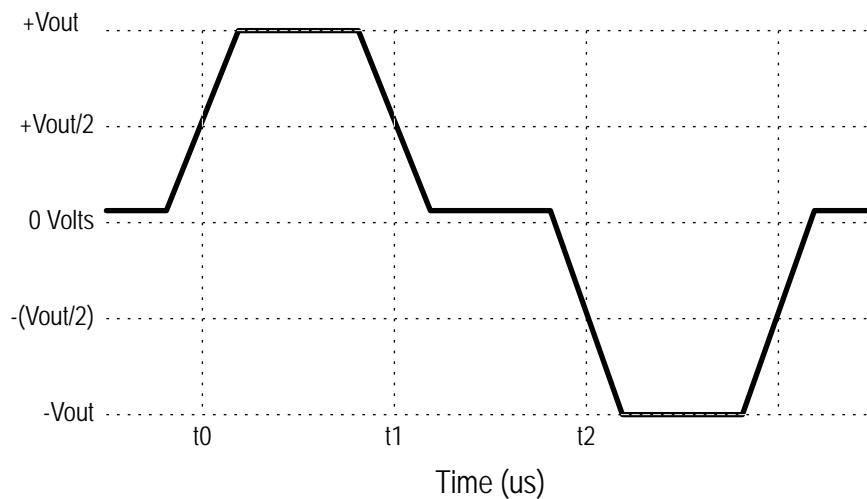

Figure 42 Bottom Threshold
Figure 42 illustrates the effects of choosing $-(+V_{out}/2)$ as the bottom crossing threshold. The reference waveform is redrawn with exaggerated baseline wander. Note that the choice of $-(+V_{out}/2)$ as the bottom threshold results in worse duty cycle distortion value than if $-V_{out}/2$ were chosen as the negative threshold.
- 2 Ensure that the DUT is sending the MLT-3 encoded 01010101 NRZ bit sequence as shown in Figure 42.
Figure 42 illustrates the effects of choosing $(-V_{out}/2)$ as the bottom crossing threshold. The reference waveform is redrawn with exaggerated baseline wander. Note that the choice of $(-V_{out}/2)$ as the bottom threshold causes a worst peak-to-peak duty cycle distortion value than if $(-V_{out})/2$ were chosen as the negative threshold.
As indicated in Figure 42, the 4 successive 50% crossing times are measured. These are named t_0 , t_1 , t_2 , and t_3 respectively. The specification states that the deviations of the 50% crossing times from a best fit grid of 16 ns shall not exceed ± 250 ps. We validate this specification in terms of the peak-to-peak duty cycle distortion requirement of 500 ps. This is done as follows: